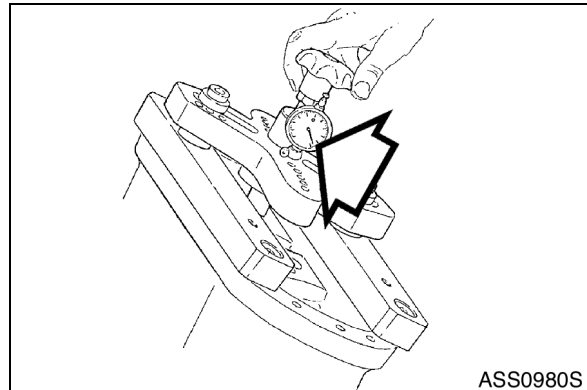

Figure 104
B. Size 140 - 200 (Figure 104).